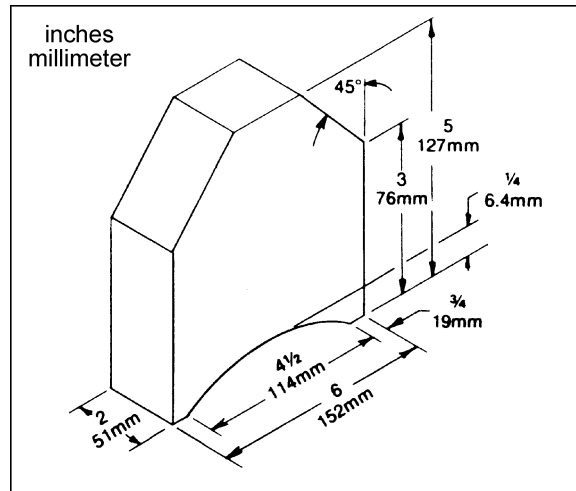
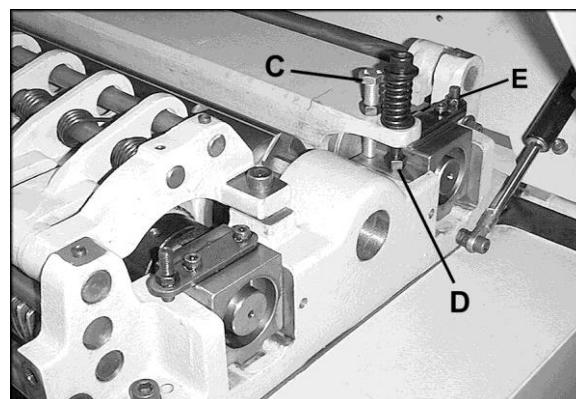
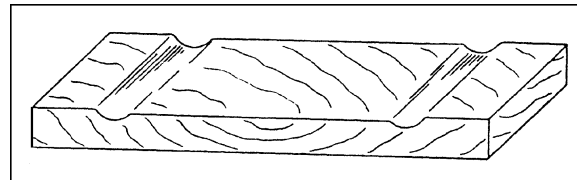

Figure 13
Figure 15
Figure 21
2. Place a dial gauge (not provided) under a knife in the cutterhead. If a dial gauge is not available, use a finished block of wood with notches cut out for the table rolls, in conjunction with a feeler gauge. See Figure 13 for an example of a wood block you can make and use as a gauge.
Figure 15 shows the height adjustment screw (C) and the spring tension adjustment screw (D) for the pressure bar. Loosen the hex nut and rotate the screw as needed. Make sure the setting on both ends of the pressure bar is the same. Tighten the hex nuts when adjustment is complete.
Use a gauge, such as a bed and feed roll gauge or wood gauge block (see Figure 13) to check the outfeed roller in the same manner as for the infeed roller. Adjust as necessary using the screws (E, Figure 15). When finished adjusting, tighten the hex nuts on the screws.
If "clip" marks occur 152mm (6") in from each end of the board, the pressure bar is too high. See Figure 21. Turn both right and left hand adjusting screws (see Figure 15) the same amount, 6.35mm (1/4") turn clockwise or less, and take another 1.59mm (1/16") deep cut. Re-examine the board.